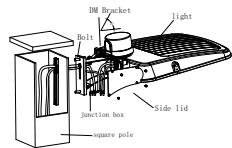

Figure 15
Step 1: Fix DM bracket to square pole with bolt, open the side lid of DM bracket, pull the wire into junction box, and connect the wire correctly. (Figure 15)
Notice: Adjustable angle is 0-35°(Figure 15).